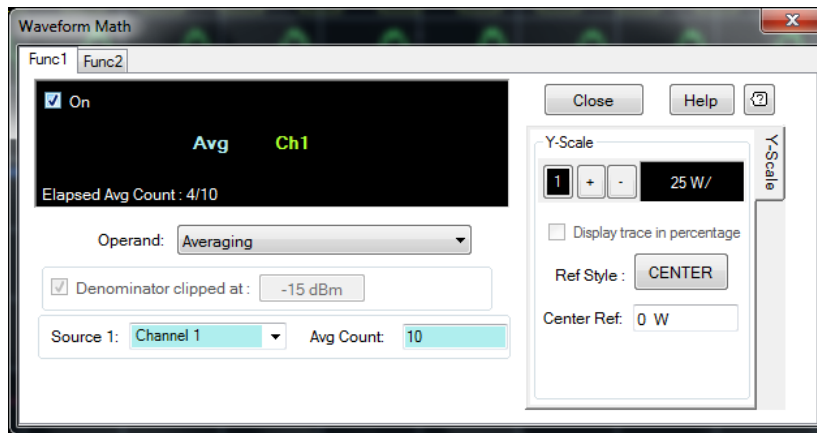

Figure 2-57 Averaging
- 1 Select **Average** at the Waveform Math dialog as shown in Figure 2-57.
- 3 The example in Figure 2-57 acquires 10 traces from channel 1 and averages the traces point by point. It calculates the average of each data point. After the elapsed average count is reached, the previously acquired trace will be removed and replaced with a newly acquired trace.